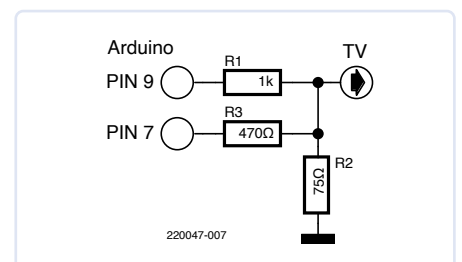

Figure 11: The circuit of the video output of Figure 9.
**Figure 11** shows the voltage divider for the video output at the typical impedance of 75 Ω. Pin 9 supplies the synchronization signals.